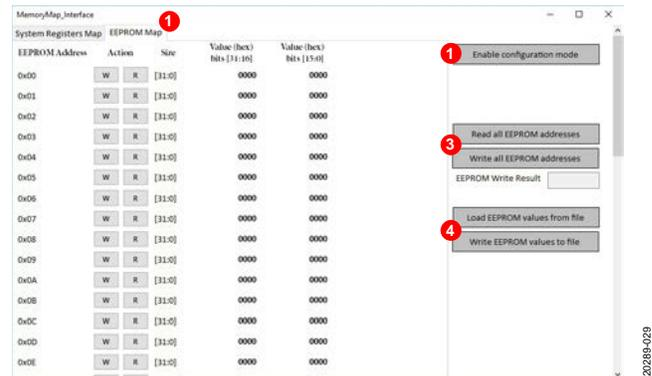

Figure 29. EEPROM Memory Map View
1. Select **EEPROM Map** (Label 1 in Figure 29) to read or write to the EEPROM.
2. Click **Enable configuration mode** (Label 2 in Figure 29) to enable writing to the EEPROM.
3. Click **R** to read individual EEPROM addresses, and click **W** to write individual EEPROM addresses. Click **Read all EEPROM addresses from DUT** and **Write all EEPROM address to DUT** (Label 3 in Figure 29) to read or write to all EEPROM addresses. Click **Load EEPROM values from FILE** and **Write EEPROM values to FILE** (Label 4 in Figure 29) to read or write EEPROM values to file. This application uses the **EEPROM_Data.dat** file from the applications root folder. A sample file is supplied in the application folder with the default values.